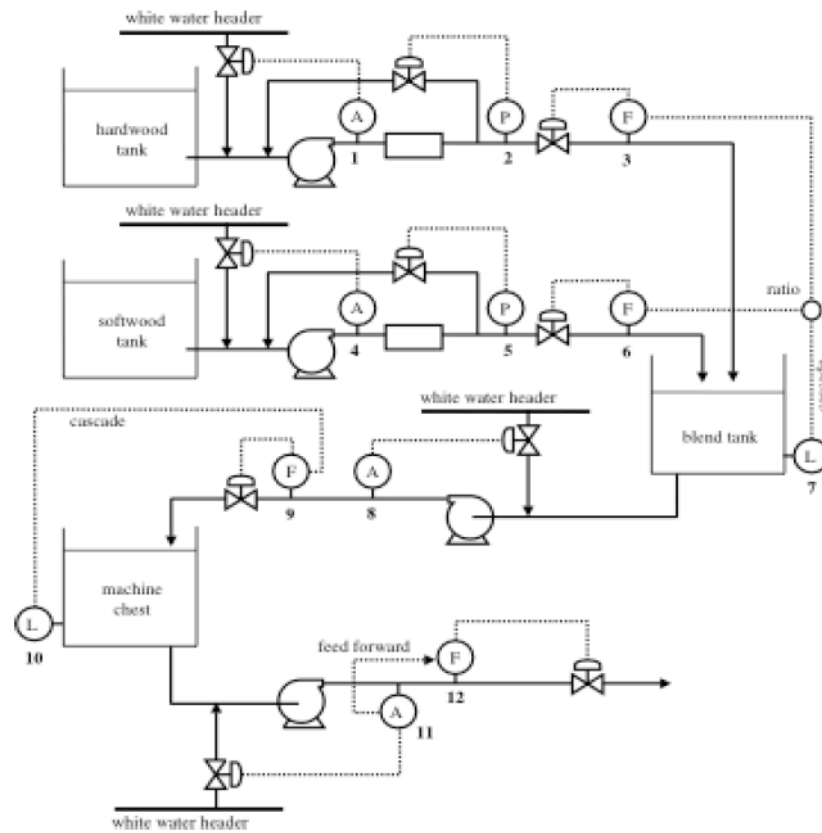

Figure 1: Schematic of the simulated Entech process
The entech data comes from a simulated process shown in Figure 1. It consists of a pulp manufacturing process, where the hardwood and softwood pulps are mixed to give a stream of desired composition. The data set is comprised of 1934 samples from 12 process measurements (tags), each of which was associated with 12 control loops. The objective of this analysis is to detect oscillations in the loops and isolate those loops with common oscillations.
- e) The basic objective in this problem is to identify all variables with common oscillations, and extract the basic shapes for each of these groups. By examining the process flowsheet (Figure 1) comment on the likely root case variable(s) that are the source of these oscillations.